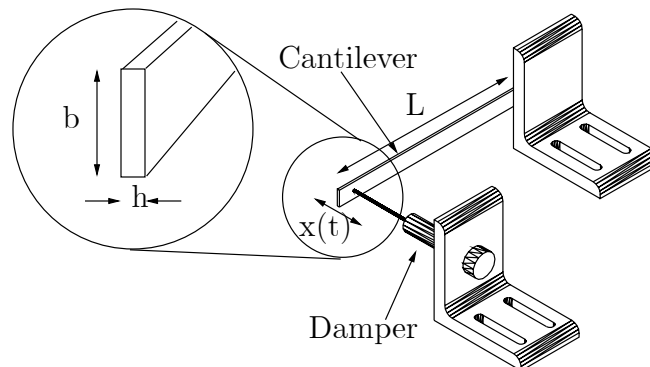
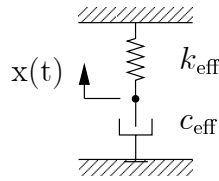

Figure 1: Picture of spring and dashpot system; $L=205$ mm, $b=12.7$ mm, $h=1.27$ mm.
Figure 2: Idealization: spring and damper.
In this lab, we measure the time constant of the spring-and-damper system sketched in Figure 1 by idealizing the system in the form shown in Figure 2.
1. Determine the numerical value of the spring constant k of the steel beam shown in Figure 1, at the position L where the air-pot is attached.
2. Derive the solution to Equation (4) if the system is given an initial displacement a_0 and released. The solution should be of the form
3. Suppose that we have measured the following output data from a spring-dashpot system, and that the dimensions of the spring steel cantilever beam are as sketched in Figure 1.